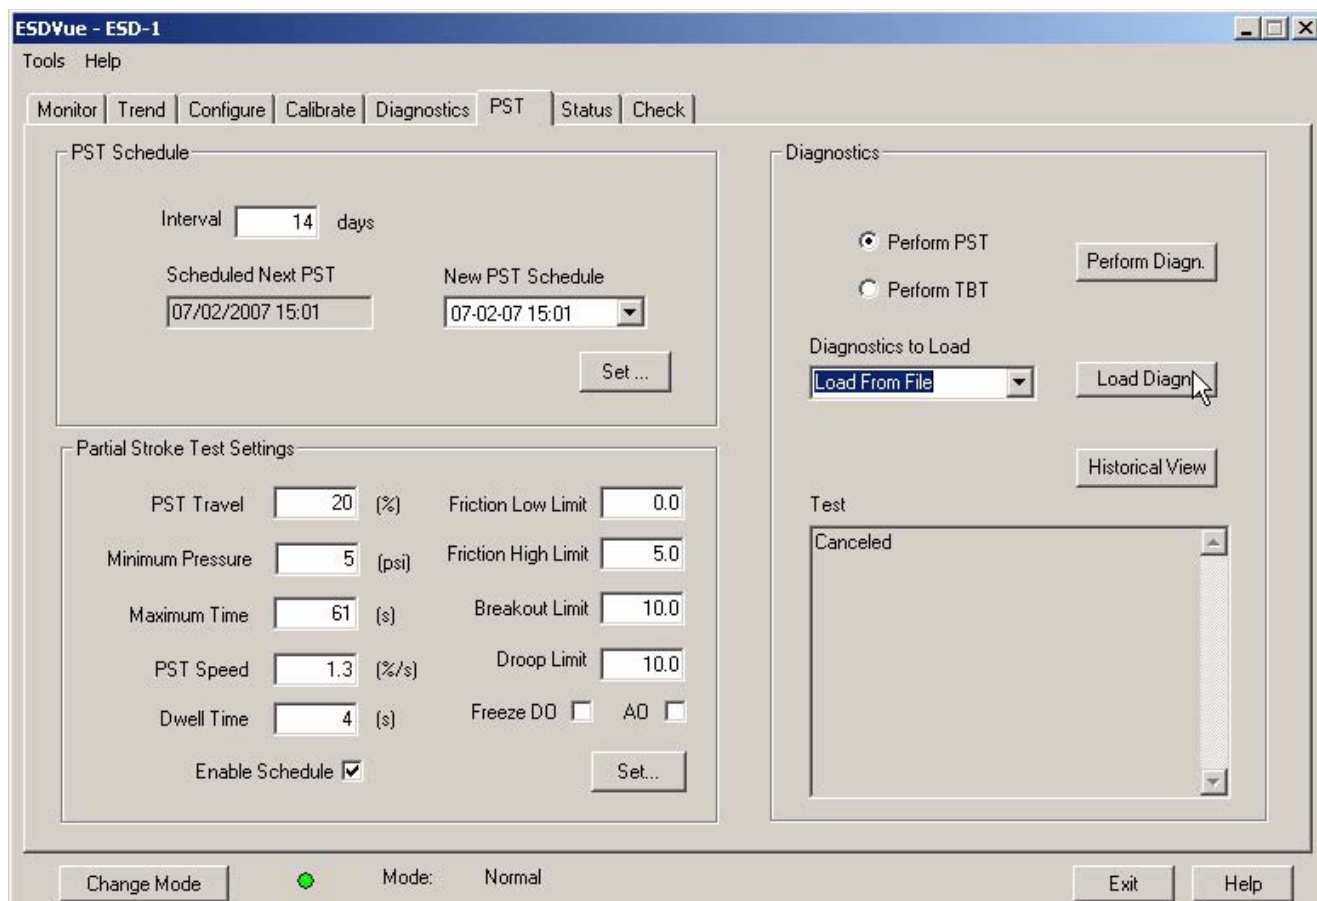

Figure 264 Selecting "Load From File"
2. Click on "Load Diagn" as shown in Figure 264 below.